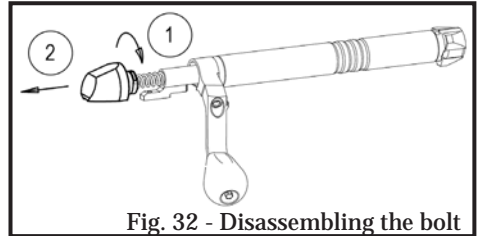

Fig. 32 - Disassembling the bolt
1. Hold the bolt body firmly and then carefully turn the bolt shroud clockwise approximately ¼ turn (1, (Fig. 32)).
2. When the bolt shroud disengages, the firing pin assembly can be pulled out of the bolt body (2).